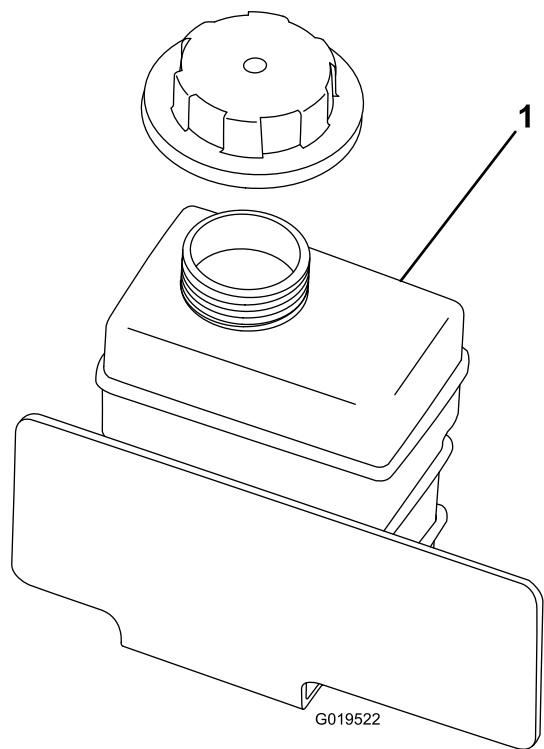

Figure 67
4. Check the coolant level at the reserve tank (Figure 67).